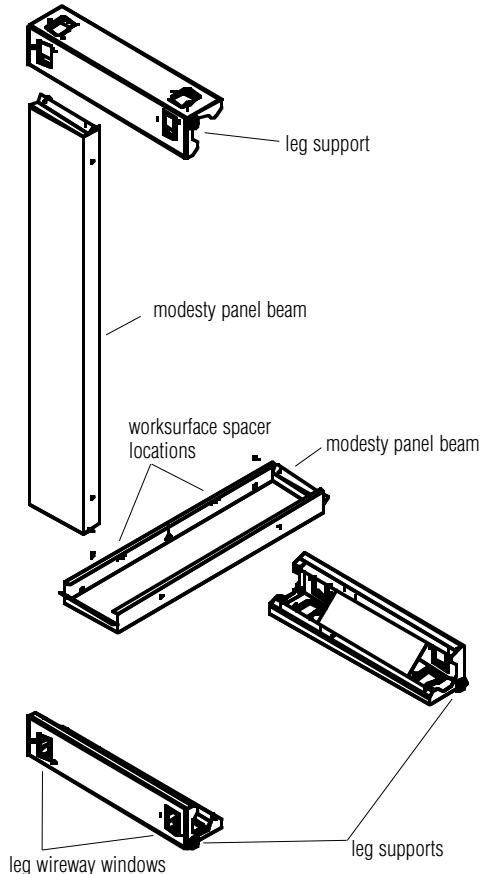

Figure 1
1. Remove all components from carton and locate hardware pack. Assemble one glide to each leg support on end with single-threaded inset. Attach leg wireway windows from inside of leg by hooking the long lip onto the rectangular cutout in leg support, flex the short lip slightly to clear cutout and push into place (Figure 1).
2. Place two leg supports on a soft surface approximately the same width as the desk. The open face of the triangular support should face up and toward the center of the workstation. Place a modesty panel beam between the leg supports, aligning holes in each flange with those of the leg supports. Secure with four 1/4-20 x 1/2 screws (Figure 1).
3. Assemble return components by aligning flange holes in additional modesty panel beam with those of additional leg support. Secure with two 1/4-20 x 1/2 screws (Figure 1).
4. Hold the return assembly perpendicular to the floor, aligning holes in modesty panel beam flange with those of the leg support. Secure with two 1/4-20 x 1/2 screws (Figure 1).